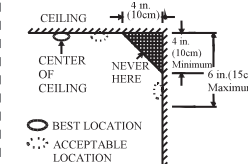

Figure 4:
- Install smoke detectors as close to the center of the ceiling as possible. If this is not practical, put the detector on the ceiling, no closer than 4 inches (10 cm) from any wall or corner, as shown in Figure 4.
- If ceiling mounting is not possible and wall mounting is permitted by your local and state codes, put wall-mounted detectors between 4 and 6 inches (10 ~ 15 cm) from the ceiling, also see Figure 4.
- Dead air spaces are often at the top of a peaked roof, or in the corners between ceilings and walls. Dead air may prevent smoke from reaching a detector. See Figures 4 and 5 for recommended mounting locations.